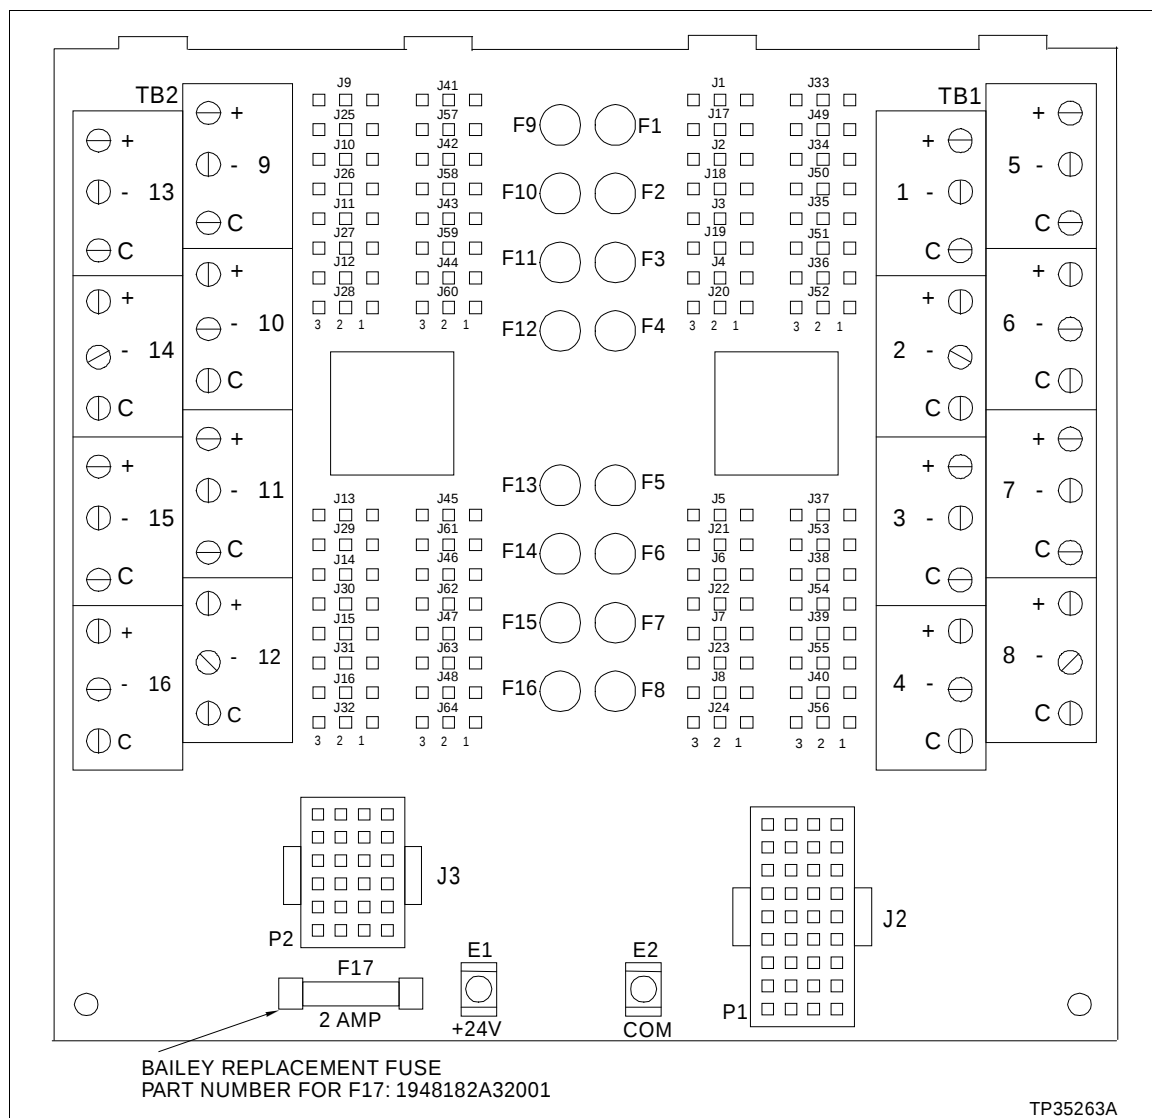
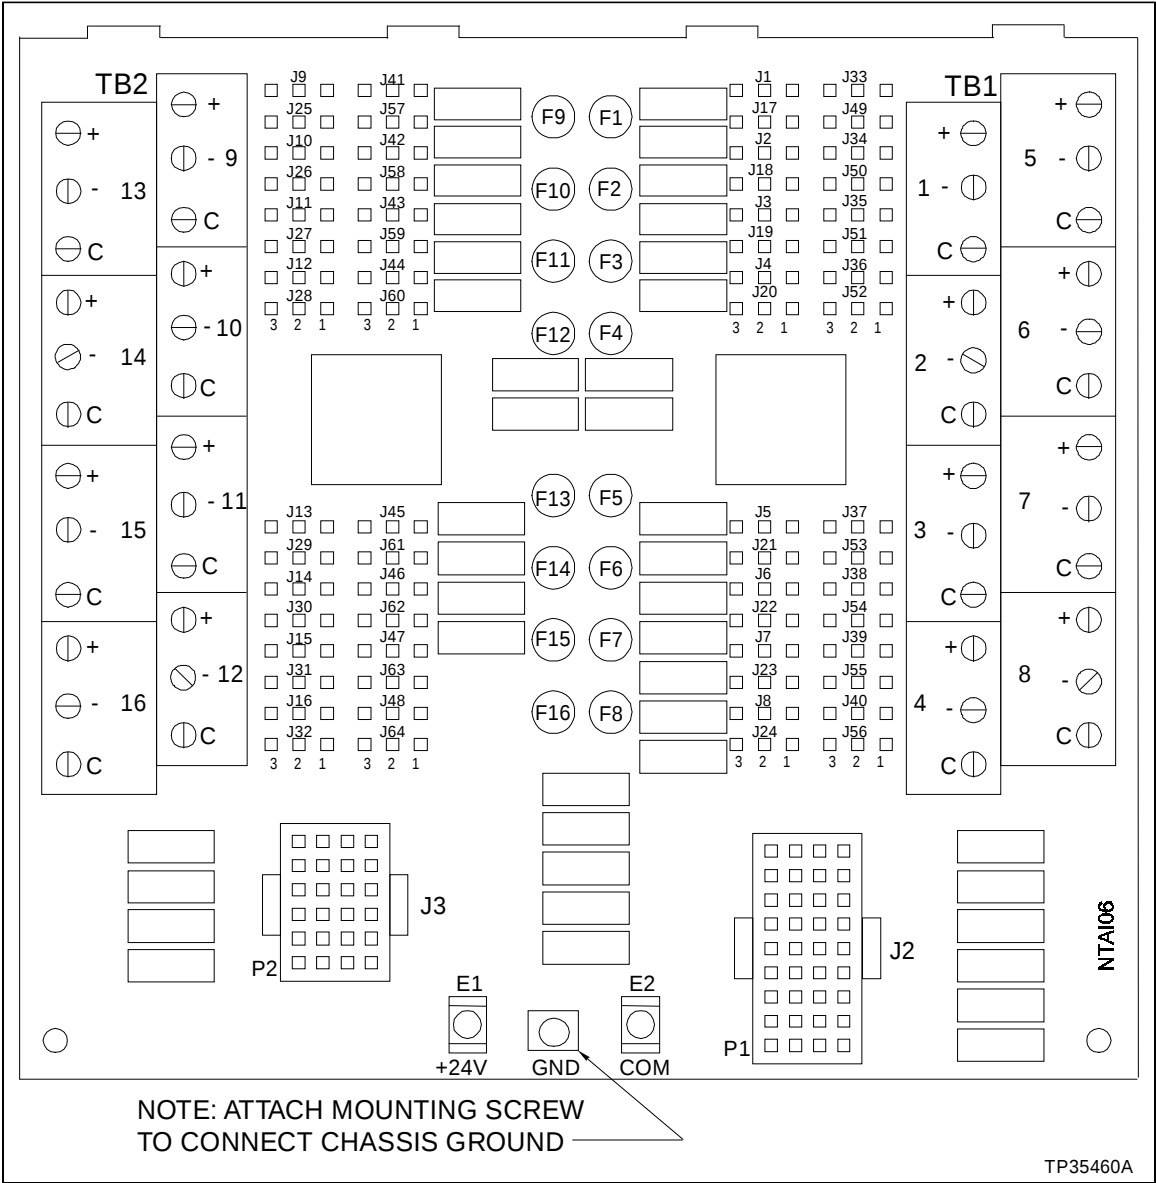

Figure B-1. Jumper locations and Terminal Assignments for Revision A Hardware NTAI06
Figure B-2. Jumper Locations and Terminal Assignments for Revision B Hardware NTAI06
IMASI03 termination units with both revision A and revision B hardware are in service. This section contains information on revision A and B units (see Figure B-1).
- Figure B-1 shows the jumper locations and terminal assignments for revision A hardware. Check jumpers before installing the NTAI06. Figure B-2 shows the jumper locations and terminal assignments for revision B hardware. Check jumpers before installing the NTAI06.